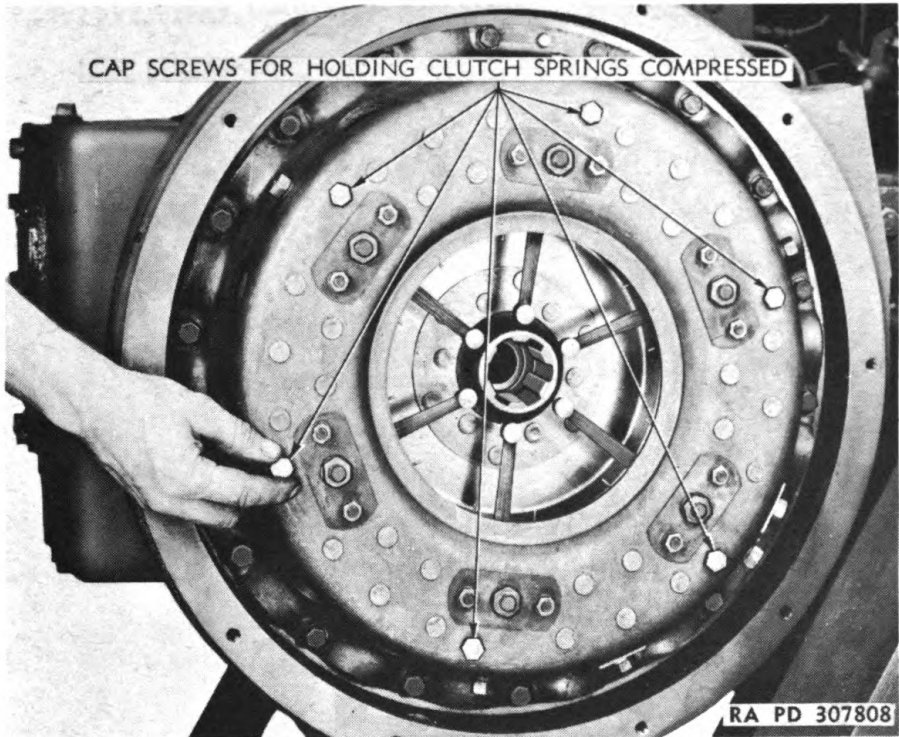
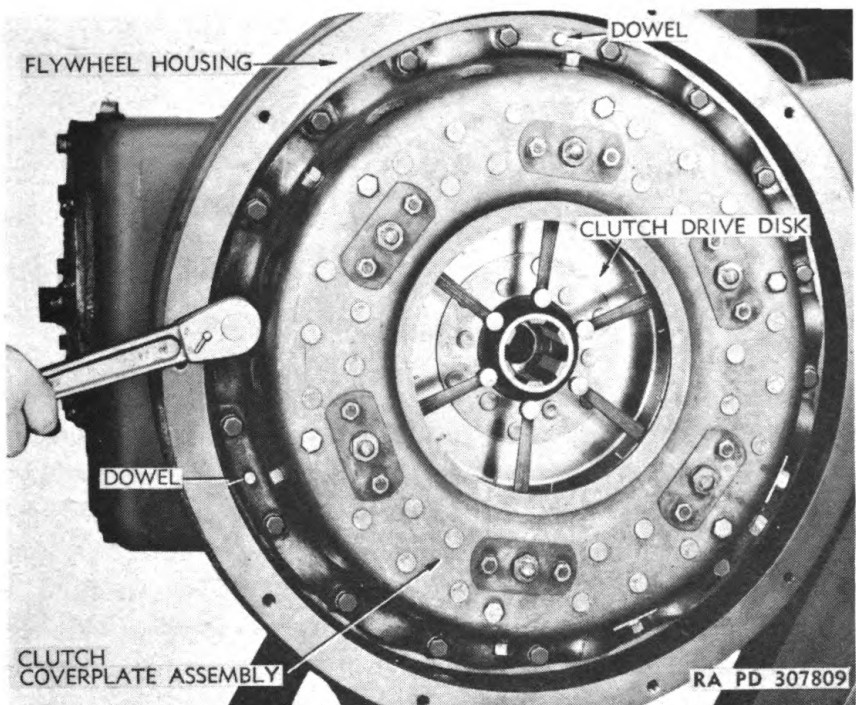

Figure 4 – Installing Cap Screws To Hold Clutch Springs Compressed
Figure 5 – Removing Clutch Assembly
c. **Remove Master Clutch Assembly.** Insert six $\frac{3}{8}$ - x $1\frac{1}{2}$ -inch NC cap screws through holes in clutch coverplate and screw them into tapped holes in bosses of pressure plate (fig. 4) until the heads of the cap screws are against coverplate. These are to hold clutch springs compressed while clutch is removed. Remove the 18 cap screws attaching clutch assembly to flywheel and remove clutch cover plate and pressure plate assembly (fig. 5). Clutch drive disk will be removed at same time. Do not lose small coverplate dowels which may pull out of flywheel with coverplate.